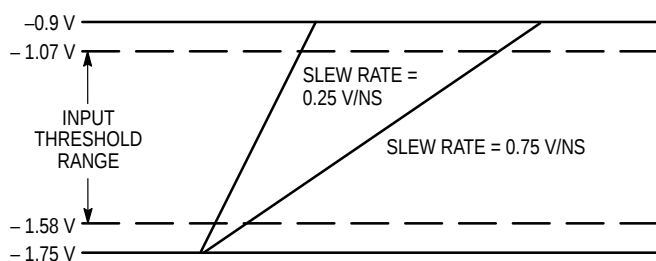

Figure 4. ECL Dispersion Test Input Conditions
3. Refer to figure 4 and note that the input is at 850mV ECL levels with the input threshold range between the 20% and 80% points. The delay is measured from the crosspoint of the input signal and the threshold value to the crosspoint of the Q and $\bar{Q}$ output signals.
Figure 4 and Figure 5 define a range of input conditions which incorporate varying input slew rates and input voltage overdrive. For input parameters that adhere to these constraints the propagation delay can be described as: